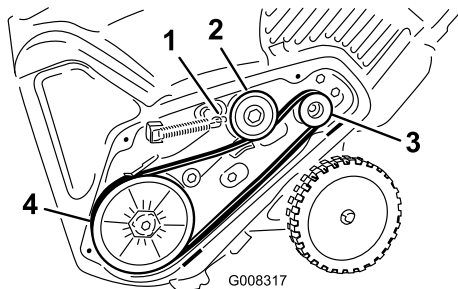

Figure 37
- Install the new drive belt, routing it as shown in (Figure 37).
- Install the brake spring onto the idler arm (Figure 37).